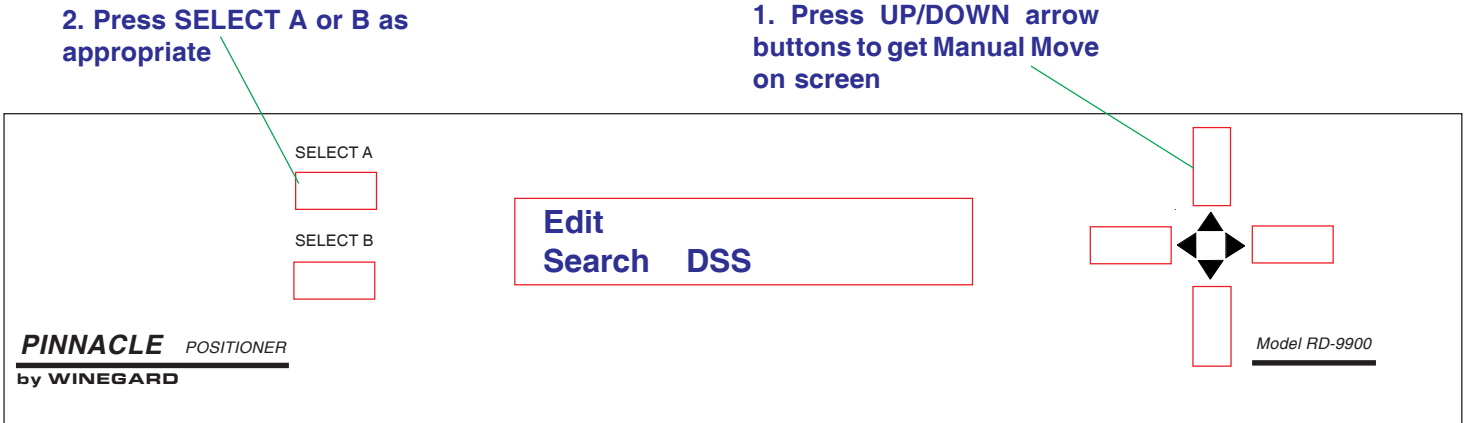

Figure 21
2. Access Edit Menu, press [UP/DOWN] arrow buttons until Edit is displayed on positioner display. See Figure 21.
3. Press [SELECT A or B] as appropriate to enter Edit Menu. See Figure 21.